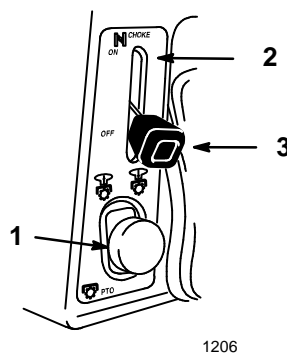

Figure 4
3. Push the PTO (power take off) to “OFF” (Fig. 4).
4. Move the choke lever to “ON” (Fig. 4).